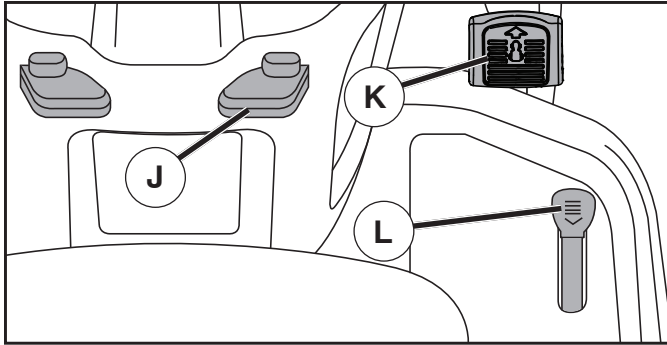

Fig. 7
## TO MOVE FORWARD AND BACKWARD (See Fig. 7)
## TO USE CRUISE CONTROL (J) (See Fig. 7)